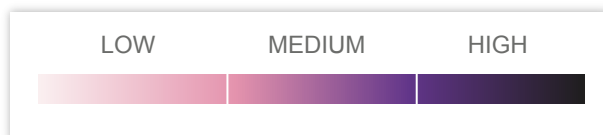

Figure 1. Colour pallet according to NBT- reactivity (according to oxiSperm®II)
9. Compare the colour of the samples with the colour of the scheme (Figure 1).